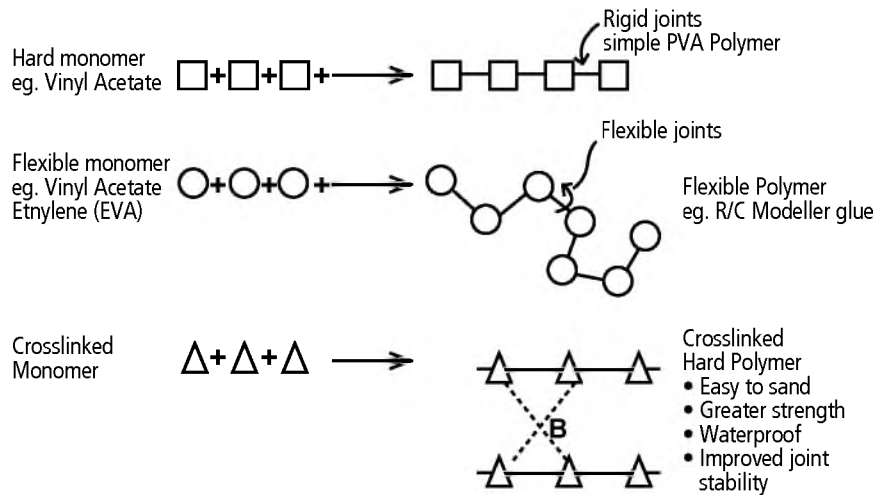

Fig 3 – Design of hard and soft polymers
1. Plasticisers initially used to soften and flexibilise the PVA have now been replaced by naturally softer polymers such as vinyl acetate ethylene (VAE) that are added between 5-40% into the mix. See Fig 3.
2. New advanced polymer adhesives (Aliphatic Resin) have been developed that can be cross-linked (see Fig 3), giving the benefits of greater strength and better joint stability.